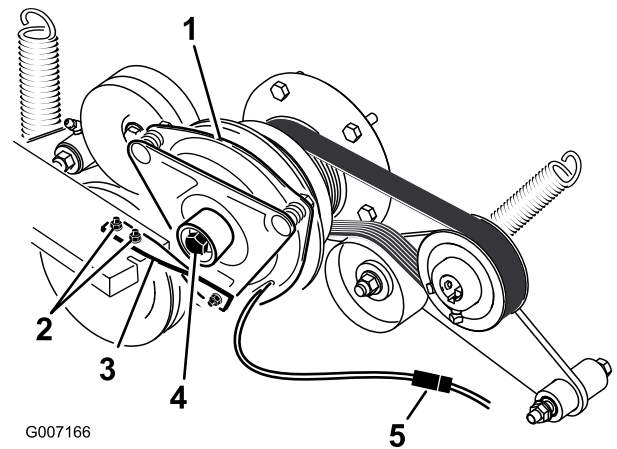

Figure 69
6. Unplug the electric connection for the clutch (Figure 69).
7. Remove the 2 bolts holding the rubber clutch strap to the mower frame (Figure 69).
8. Remove the center bolt holding the clutch to the engine shaft and remove the clutch and key (Figure 69).
15. While holding the crank shaft at the back of the machine, install the center bolt and torque it to 68 N·m (50 ft·lb) (Figure 69).
16. Install the rubber clutch strap to the mower frame with the 2 previously removed bolts and nuts (Figure 69).
18. Plug in the electric connection for the clutch (Figure 69).